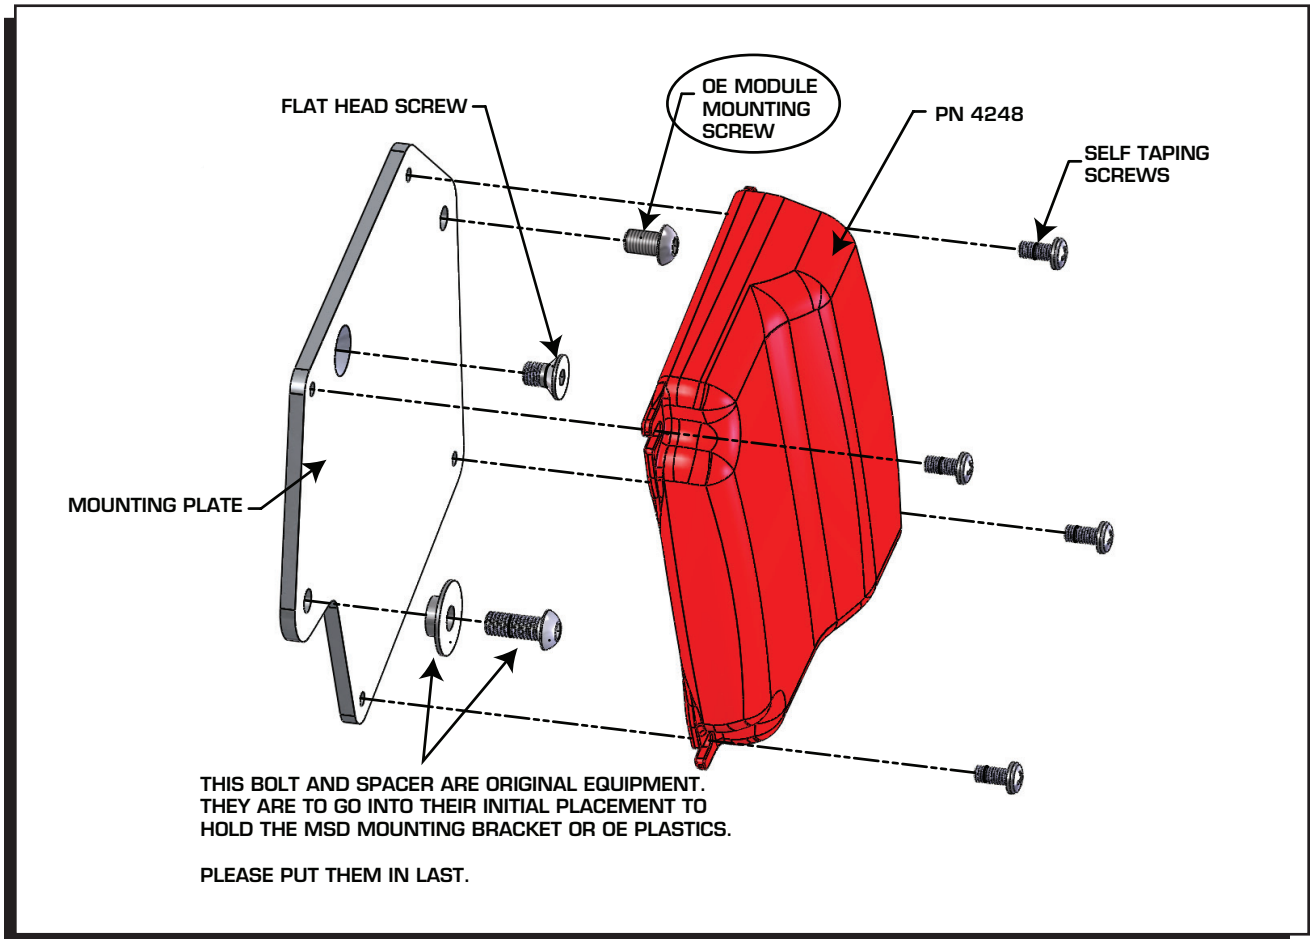

Figure 1
7. Mount MSD Blaster FI unit using supplied mounting plate, supplied hardware, and some OE hardware as depicted in Figure 1